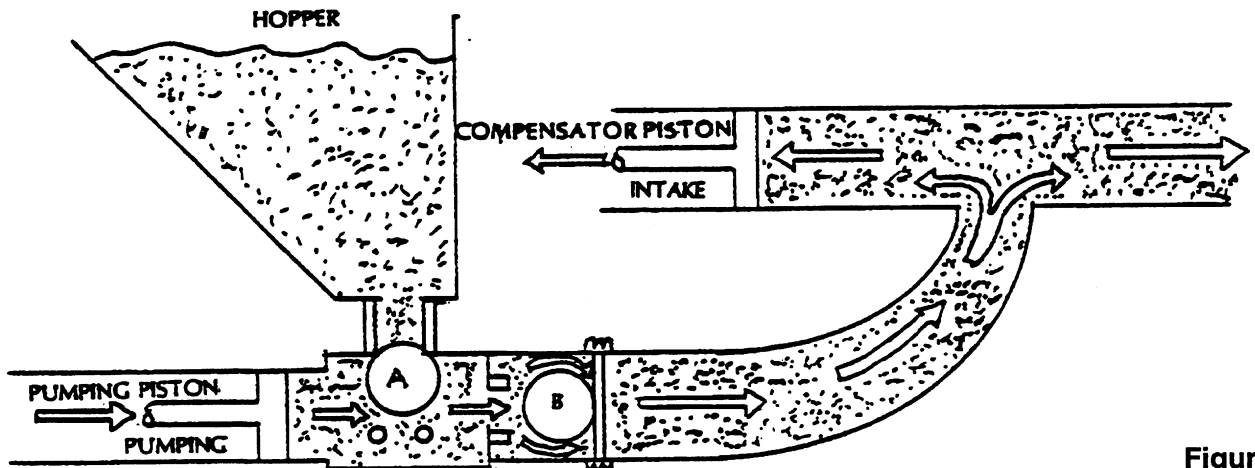

Figure 2
Figure 2- The pumping piston is forcing the material past ball (B) and out to the nozzle, also seating ball A so that the material will not flow back to the hopper. This action also fills the compensating piston for the next stroke.